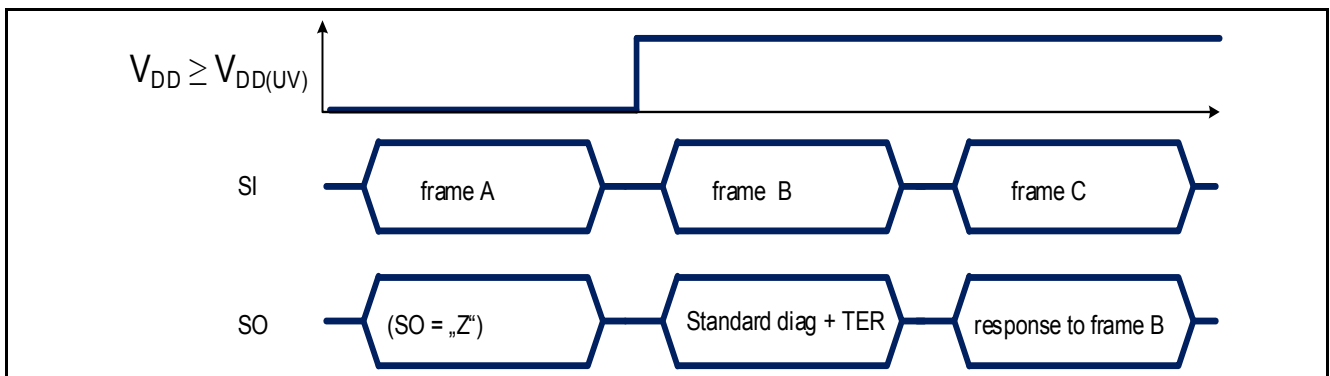

Figure 46 TLD5541-1 response after coming out of Power-On reset at V_{DD}
- when TLD5541-1 logic supply comes out of an Undervoltage reset condition ($V_{DD} < V_{DD(UV)}$ as shown in Figure 46 or $EN/INUVLO < V_{EN/INUVLOth}$)